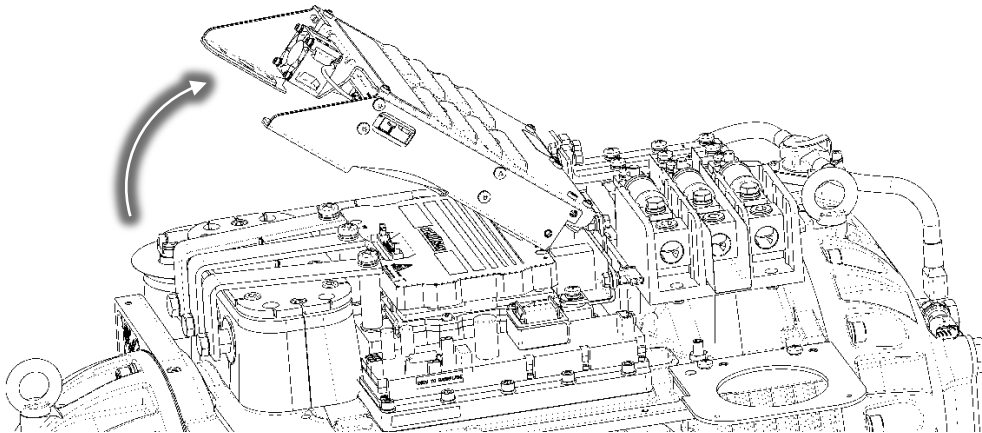

Figure 4 – Soft Start Lift
11. Lift the Soft Start and turn it over, placing it board-side up on the AC Bus Bars. Refer to Figure 4 (Soft Start Lift).